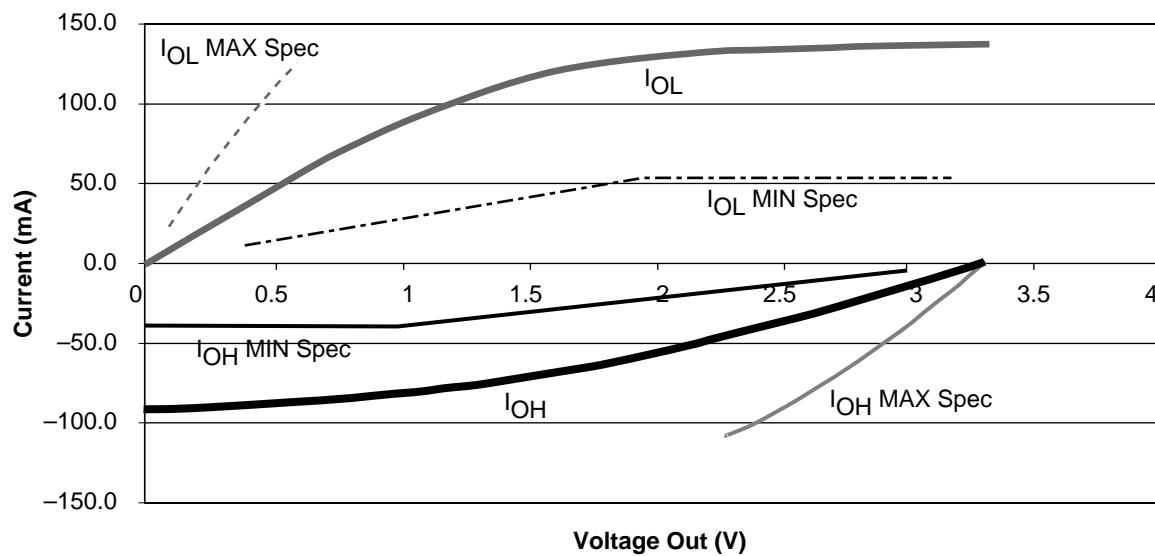

Figure 14 • 3.3V PCI V/I Curve for SX-A Family
1. Refer to the *V/I* curves in Figure 14 on page 20. Switching current characteristics for REQ# and GNT# are permitted to be one half of that specified here; i.e., half size output drivers may be used on these signals. This specification does not apply to CLK and RST#, which are system outputs. "Switching Current High" specifications are not relevant to SERR#, INTA#, INTB#, INTC#, and INTD#, which are open drain outputs.
2. Maximum current requirements must be met as drivers pull beyond the last step voltage. Equations defining these maximums (C and D) are provided with the respective diagrams in Figure 14 on page 20. The equation defined maximum should be met by design. In order to facilitate component testing, a maximum current test point is defined for each side of the output driver.
Figure 14 shows the 3.3V PCI V/I curve and the minimum and maximum PCI drive characteristics of the SX-A family.